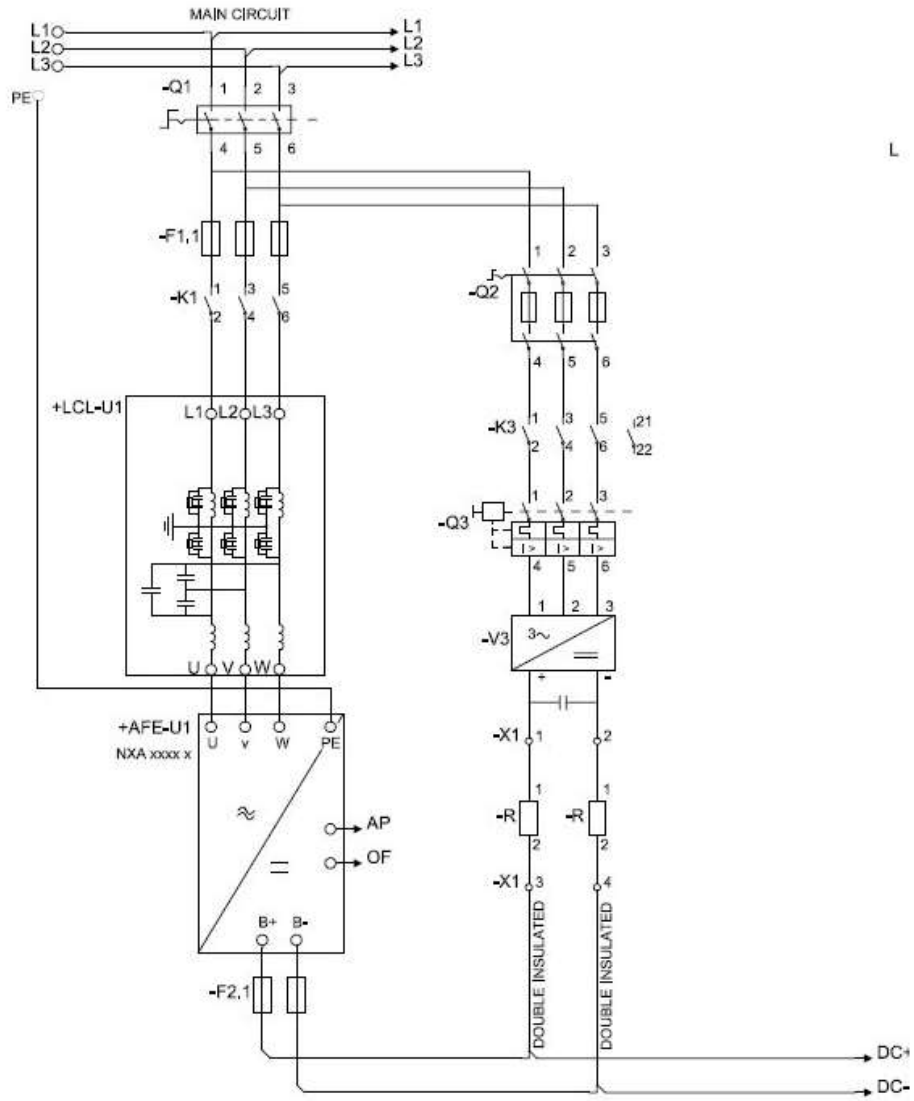

Figure 6. Connection
The Grid Converter is utilised by using AFE hardware with special software. An external LC(L)-filter and charging circuit is needed. This unit is selected when low harmonics are required. The principle connection of AFE drive has been described in Figure 6.
1. Connect the unit according to the Figure 6.